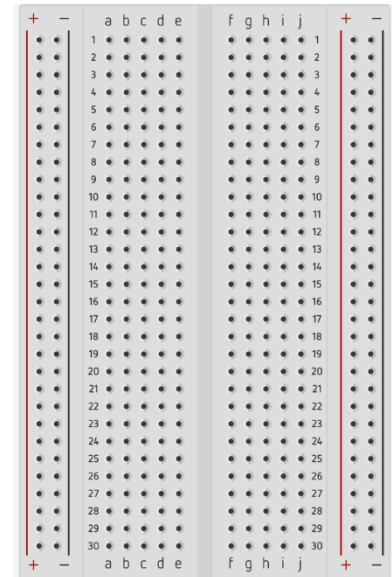

Figure 1: Breadboard used to organize the circuit and wiring.
- 1.1.1. Note: (Figure 1) A breadboard is the construction base for the circuit, the advantage of using a breadboard is the fact that wires do not have to be soldered in order to be connected and transmit electricity.